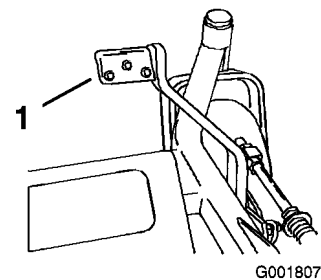

Figure 25
2. Press on the lift assist lever while pulling up on the height-of-cut lever (Figure 25).